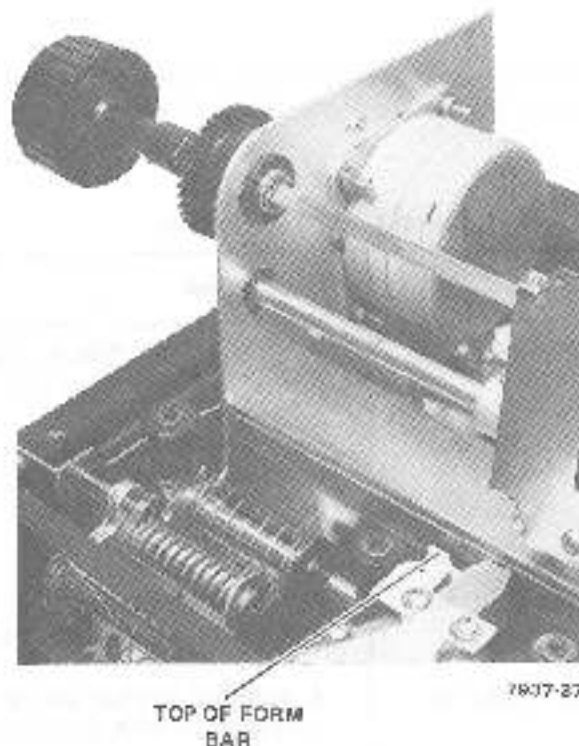

Figure 1-5 Top of Form Setting
SETTING THE TOP OF FORM POSITION (Figure 1-5)
1. Set the PRINTER ON (1)/OFF (0) switch to OFF.
3. Turn the paper advance knob counterclockwise while moving the carriage adjustment lever forward one notch at a time until the paper smudges; then move the lever back one notch at a time until the paper no longer smudges (Figure 1-5).
4. Set the PRINTER ON (1)/OFF (0) switch to ON, reset any paper out conditions, and resume operation.